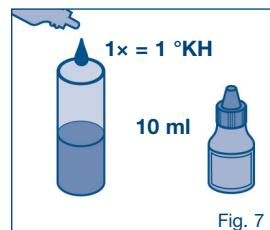

Fig. 7
1. The carbonate hardness can be requested from the water supplier or established by means of a quick test (droplet test, Fig. 7). The bypass setting can be selected based on the carbonate hardness and its application. The typical filter capacities are shown in Table 1–3 in Section 10.